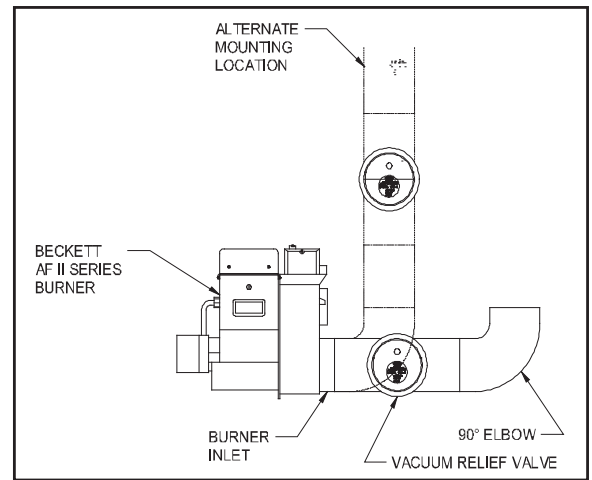

Figure 2
2. Mount VRV tee assembly or 90° elbow onto the burner inlet. Fasten using three (3) sheet metal screws on all joints. (See Figure 2)